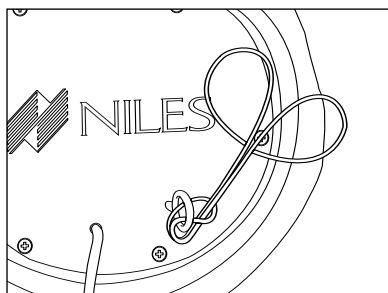

Figure 11 Security Cable
4. Pull the ends of the security cable with the loops as tight as you can until the knot around the security eyelet is tightened as shown in **Figure 11**.